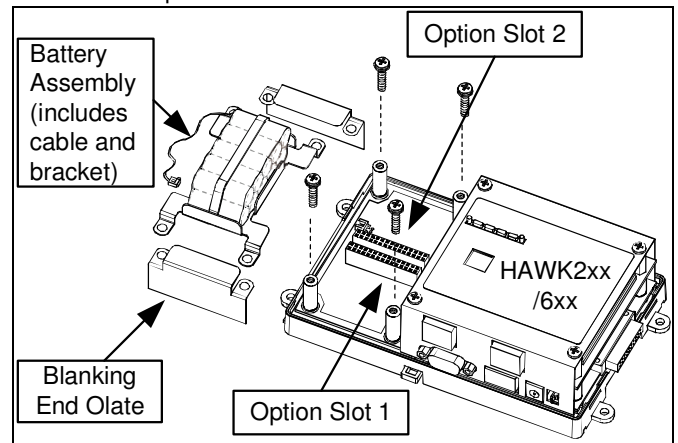

Fig. 2 Remove screws and battery assembly.
- Step 3** Remove the battery and bracket assembly by taking out the four screws holding it in place, setting the screws aside for later. Unplug the battery from the connector on the HAWK 2xx/6xx. See Figure 2 for an exploded view.